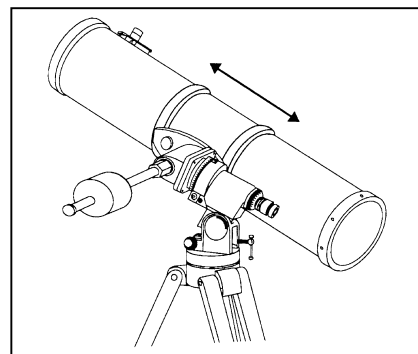

Figure 2b
5. Loosen the screws that hold the telescope inside the mounting rings and slide the telescope either forward or backwards until it remains stationary when the DEC clamp is released (see figure 2b).